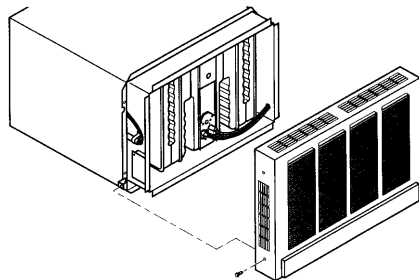

Figure 17 - Attaching Front Grille to Cabinet
- 2. Secure the sides of front grille to lower sides of furnace cabinet with two screws provided (see Figure 17).